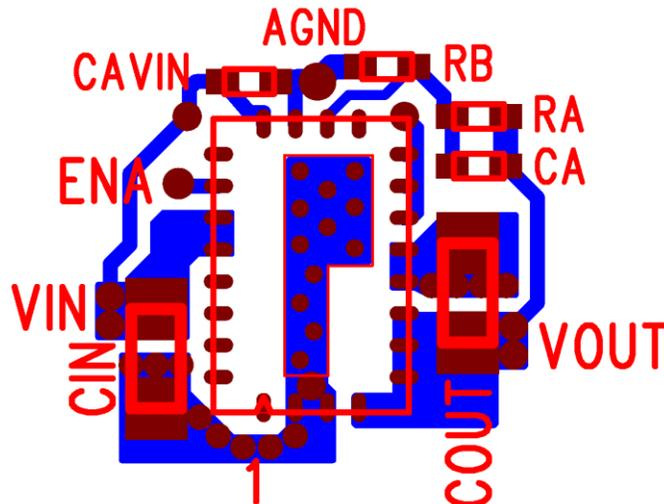

Figure 9: Optimized Layout Recommendations
**Recommendation 5:** AVIN is the power supply for the small-signal control circuits. It should be connected to the input voltage at a quiet point. In Figure 9 this connection is made at the input capacitor. Place a 1 $\mu$ F capacitor from the AVIN pin to AGND right next to device pins.
Only the two large thermal pads and the perimeter leads are to be mechanically/electrically connected to the PCB through a SMT soldering process. All other exposed metal is to remain free of any interconnection to the PCB. Figure 9 shows the recommended PCB metal layout for the EN5329QI package. A GND pad with a solder mask "bridge" to separate into two pads and 24 signal pads are to be used to match the metal on the package. The PCB should be clear of any other metal, including traces, vias, etc., under the package to avoid electrical shorting.